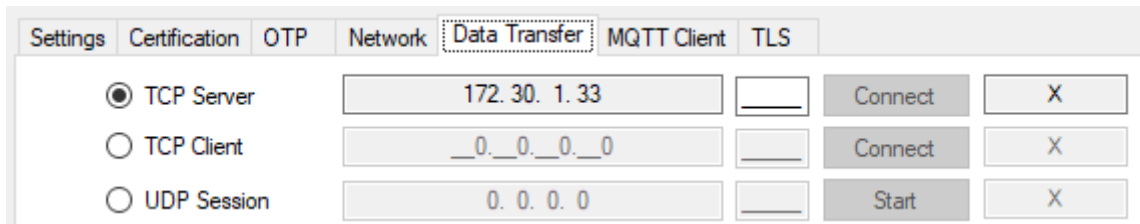

Figure 23: Debug Console – DHCP Configuration
- When a client is connected, the MAC address will be shown as in Figure 23